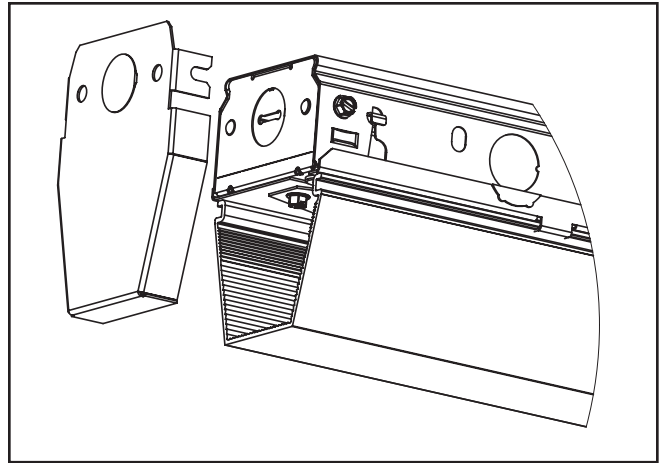

Figure 4.
7. Install end caps by sliding into place and tightening screws. (Figure 4.)